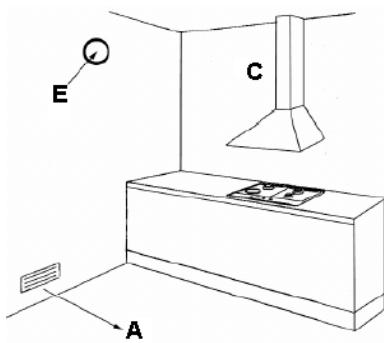

Fig. 9
- Using a socket wrench, replace the injectors "J" (fig.9) with the suitable ones for the gas used
After replacing the injectors, light the burner and remove the knob. Turn the tap to the minimum setting and insert a screwdriver in the rod: tighten to reduce the flame, loosen to increase the flame (fig.9)